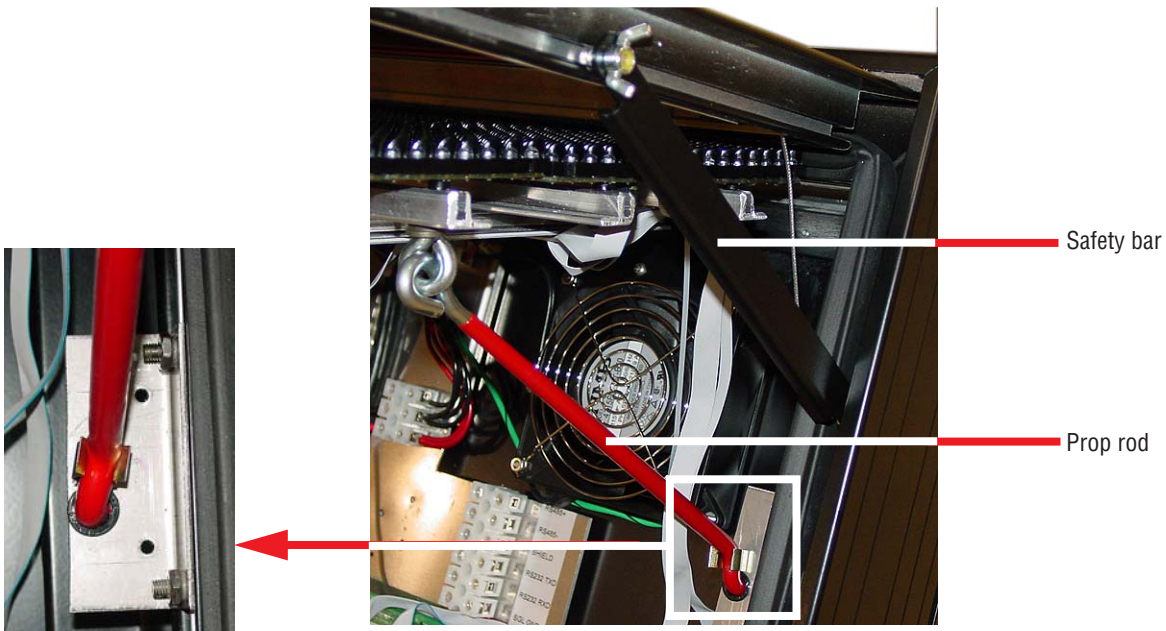

Figure 15: Safety bar and prop rod
3. Stand away from the front of the unit. Then lift the door upward. Swing each safety bar up and attach it to the bolt inside the sign using the supplied wing nut. (See Figure 15 on page 34.)